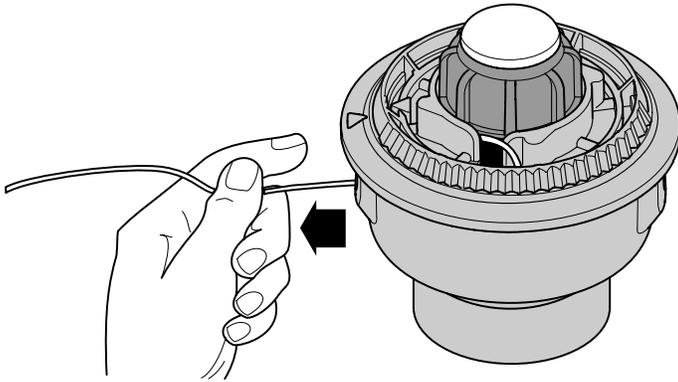

Fig. 11
- Pull the line from the outer spool until the line is tight against the inner reel (Fig. 11).